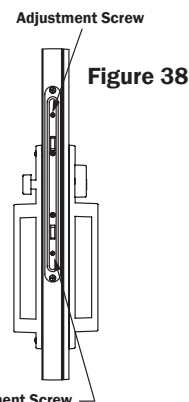

Figure 38
39. The screws in the lock can be adjusted to make the door lock tighter or looser. Each hook adjusts individually (Fig. 38).